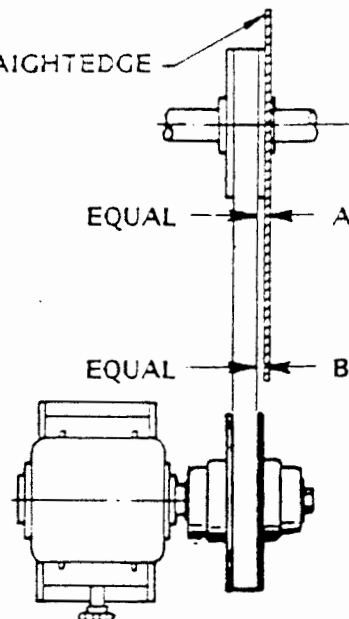

FIGURE 2
4. Move the motor/base/drive sub-assembly until the belt is under some tension and is approximately aligned with the straightedge as illustrated in Figure 2. Mark the motor base mounting holes on your equipment when you are satisfied that alignment is correct within 1/16" tolerance along both top and bottom sections of the belt. This procedure insures that the motor and driven shafts are parallel. Turn the motor base handwheel clockwise until the belt is loose, remove the belt, lift the motor/base/drive subassembly from your equipment. Drill the motor base mounting holes in your equipment. Bolt the motor/base/drive sub-assembly in position.
5. ACCURATELY ALIGN THE BELT — Place the belt over the 8800 pulley and companion sheave. Turn the motor base handwheel clockwise until the belt is tensioned. While rotating the 8800 pulley by hand, continue to turn the motor base handwheel until the belt is flush with the 8800 pulley outside diameter. Using a straightedge as shown in Figure 2, adjust the 8800 pulley axially on the motor shaft until equal measurements are obtained at positions A and B. Tighten all bolts securely. Tolerance for equal measurements must be within 1/32".